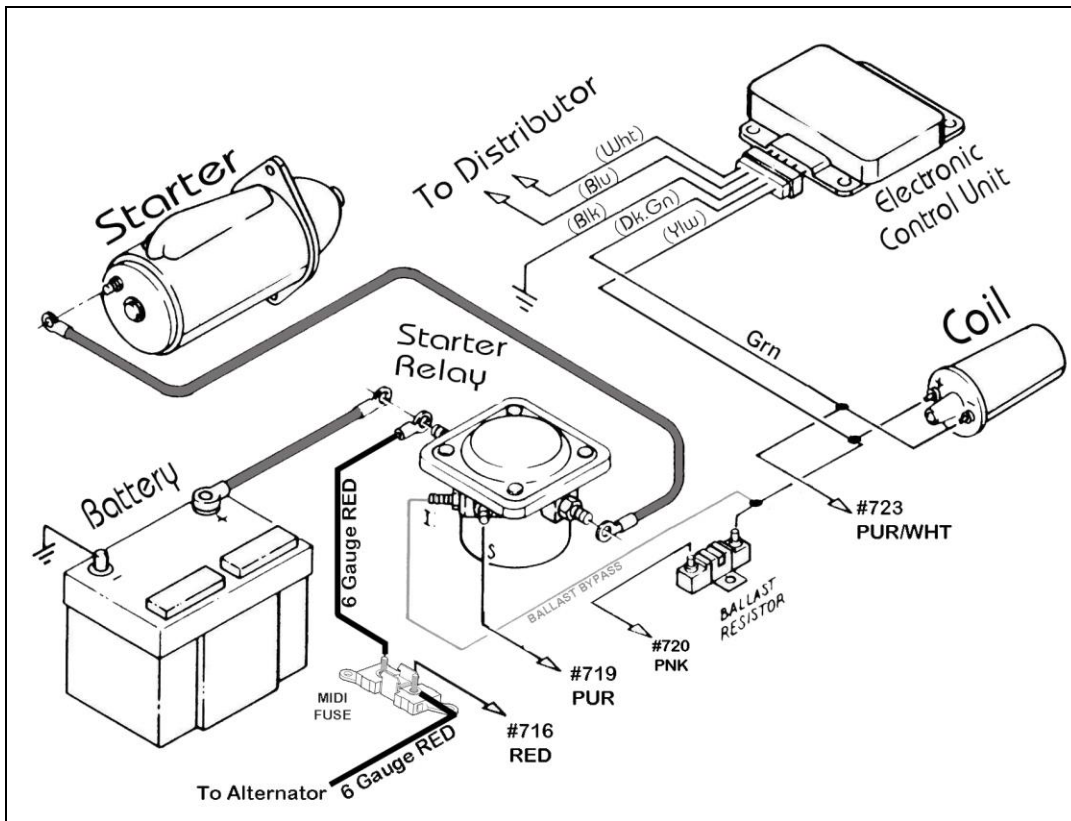

Figure 8.6 Prestolite BID Ignition (Start/Run) System
8.2.5 Prestolite BID Ignition System (1975-1977). See Figure 8.6